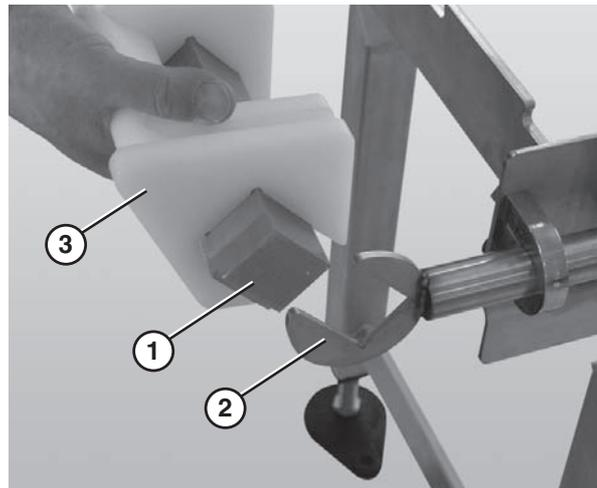

Figure 69
- Slide the nose bar drive or transfer post (Figure 69, item 1) out of the nose bar drive weldment or idler hands (Figure 69, item 2).
- Remove the nose bar tracking pucks (Figure 69, item 3), if applicable.